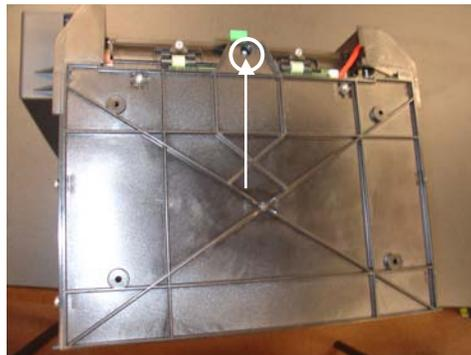

Figure 3. Bottom Torx screw location.
3. Turn the dispenser over so that the bottom plate is facing up as shown in Figure 3. Remove the bottom torx screw shown. Set the screw aside.